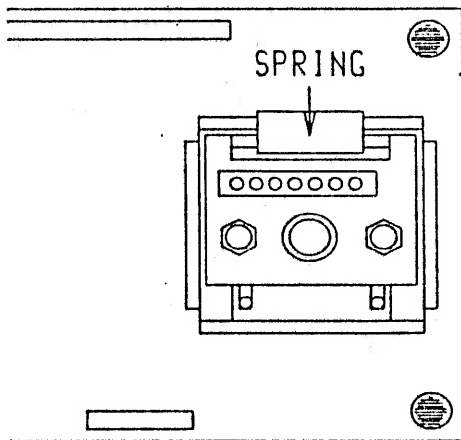

FIGURE 5
15. Attach the heat sink spring from the kit over the chip. FIGURE 5